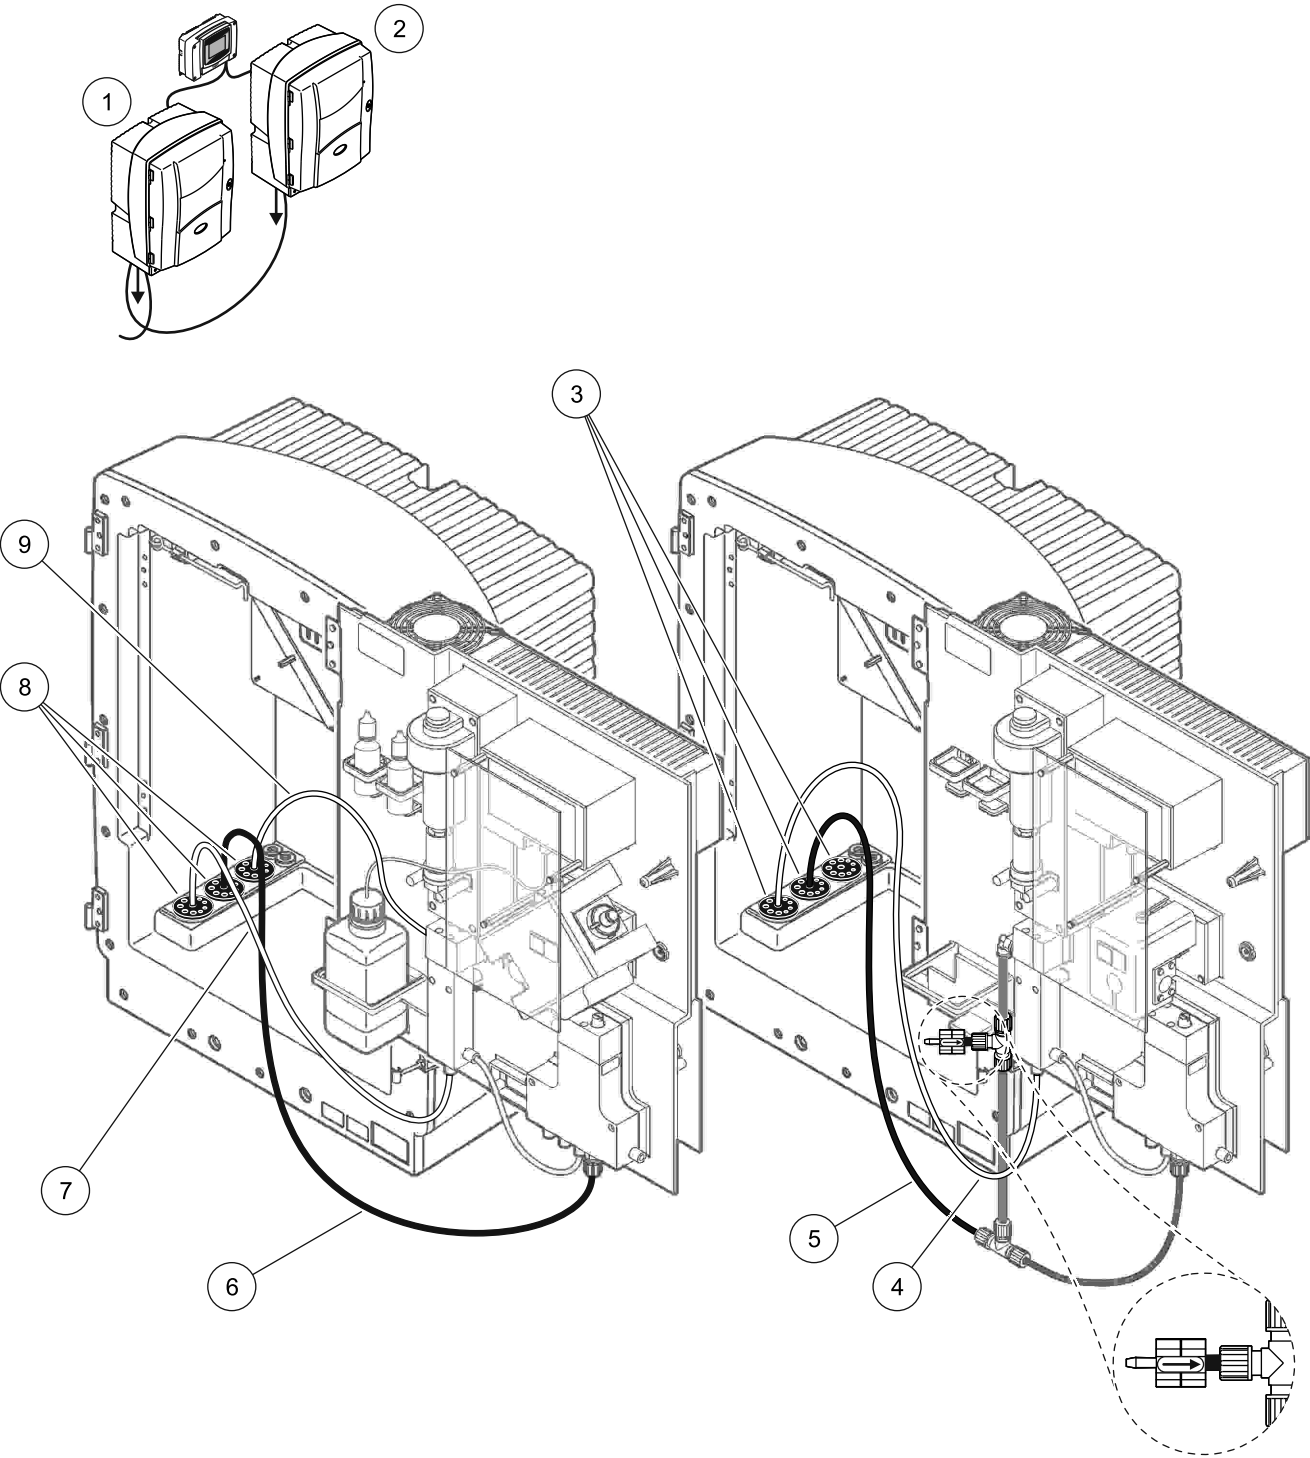

Figure 41 Option 10b setup
Refer to Figure 41 and the following instructions for Option 10b:
- a. Feed the sample line from the sample preparation unit through the analyzer (Figure 41, item 7). Use Seal Plug #3 to secure.
- b. Feed the drain tube through the analyzer (item 6). Use Seal Plug #3 to secure.